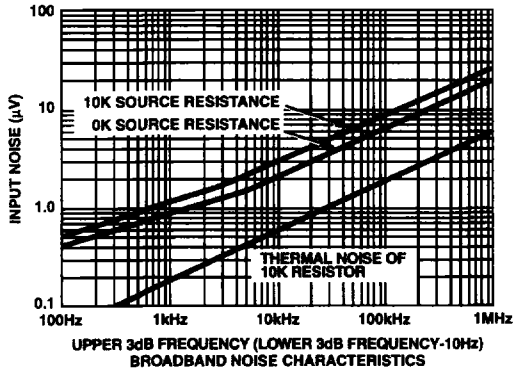

FIGURE 11. EQUIVALENT INPUT NOISE vs BANDWIDTH
- See Figure 11 for test circuit.